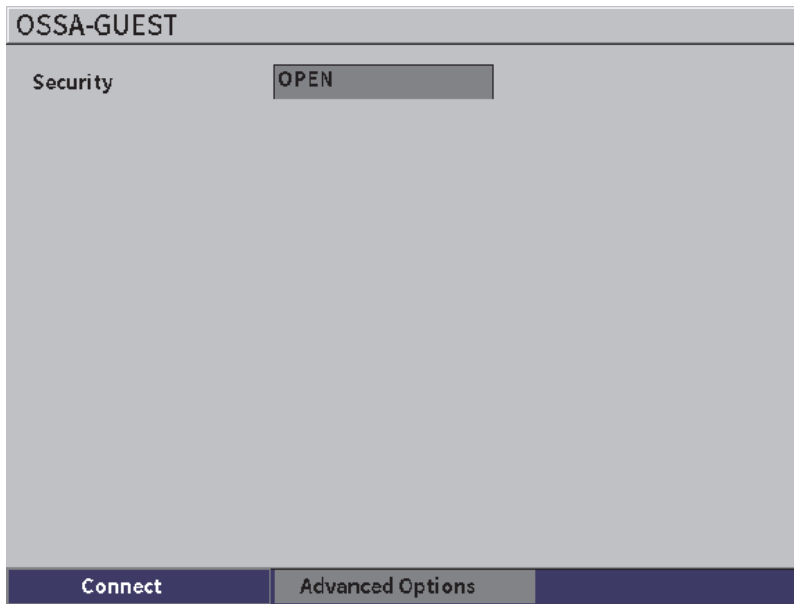

Figure 10-3 Wi-Fi unsecured logon page
- b) If the network you select does not require a password, press the Enter key to connect to the selected network (see Figure 10-3 on page 148).